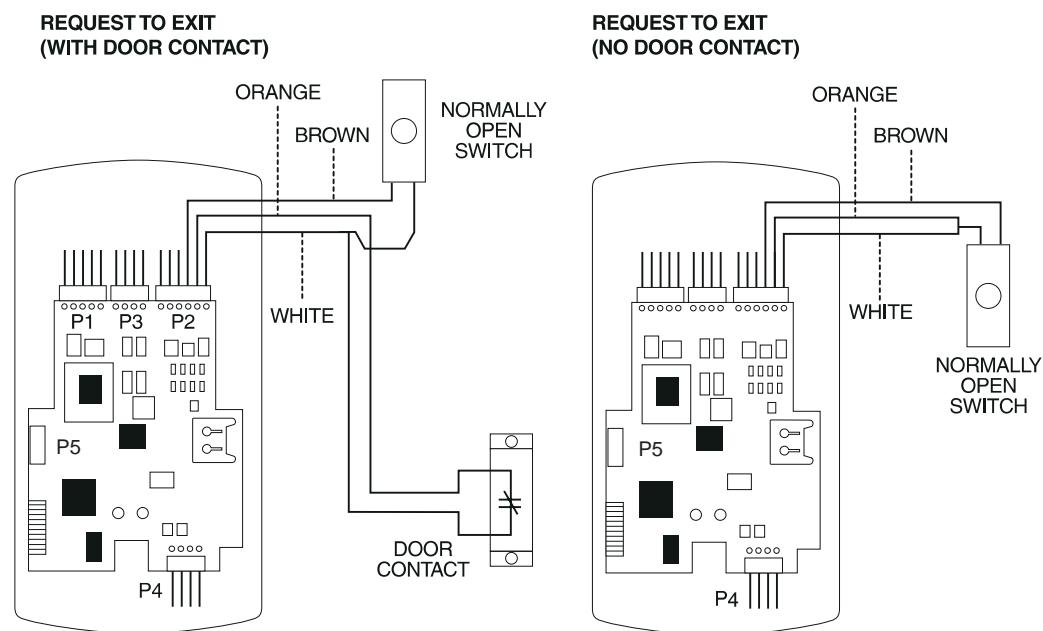

Figure 3-5 Wiring the REX Switch
Other REX devices can be used to include a remote button placed at a receptionist’s desk, a press-to-exit switch on the inside of a door, or a passive infrared detector, allowing free and convenient egress. The external REX feature requires no programming; simply wire the unit as illustrated in Figure 3-5. To incorporate this feature, follow the steps below:
4. **If you do not wish to install the door contacts per Figure 3-5, twist the white wire and the orange wires together; this is mandatory. If this is not done, the REX input will not function.**